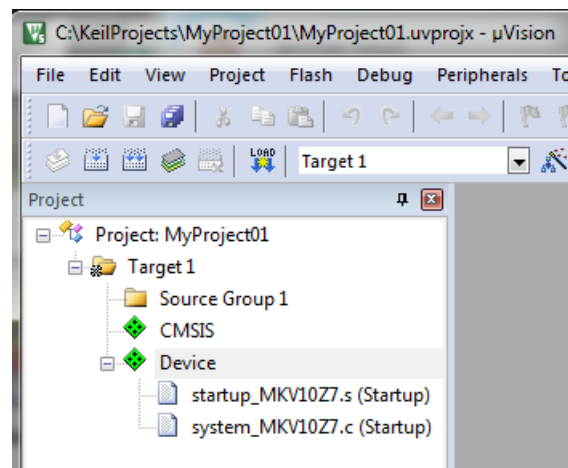

Figure 1-29. Project
- Click OK, and a new project is created. The new project is now visible in the left-hand part of Keil µVision. See Figure 1-29.